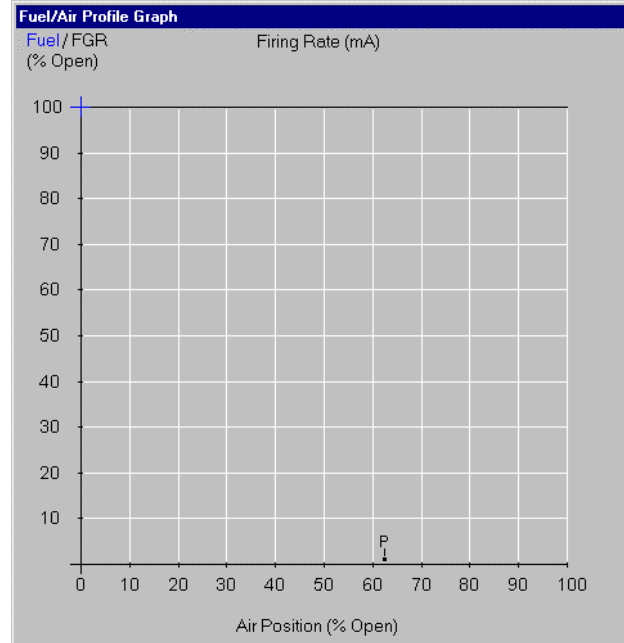

Fig. 19. Fuel/Air Profile Graph.
- Enter points on the graph to indicate the Air Purge position, Light Off position, Maximum and Minimum modulation positions, and intermediate positions for the actuators for the specified fuel (Fuel 1 or Fuel 2). See Fig. 19.